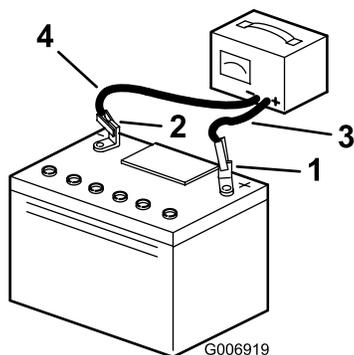

Figure 37
5. Disconnect the charger leads from the battery posts (Figure 37).